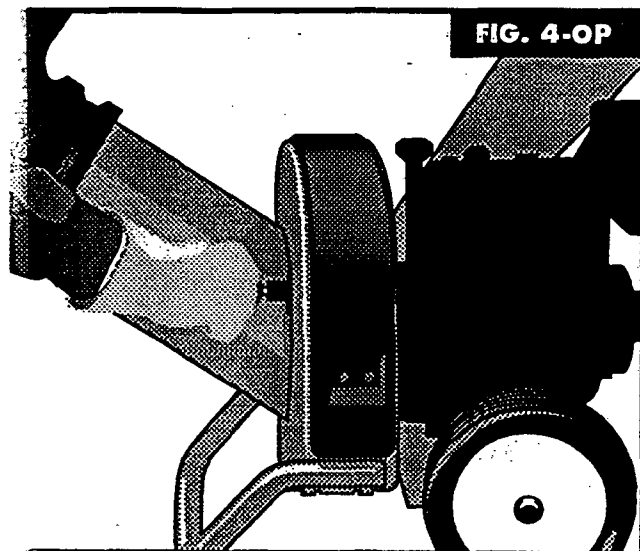

FIG. 4-OP
To rotate the Hopper assembly, use one (1) hand to pull the Hopper release knob out until the Hopper assembly is free to move (See FIG. 4-OP). Rotate the Hopper assembly to the right (while holding the Hopper release knob) until the edge contacts the ground.